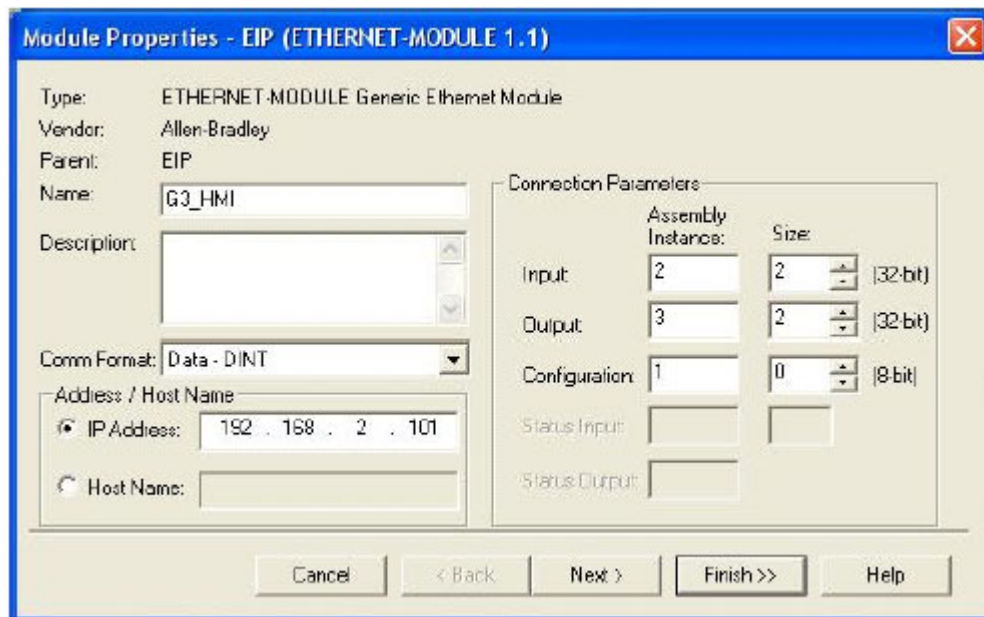

FIG. 72. Ethernet Module Properties
- d. Click OK. This will open the Module Properties window. See FIG. 72.
- e. In the Name field, enter a descriptive name to identify the module. See FIG. 72.
1. **Ethernet Settings.** Set the IP Address to 192.168.2.101. This should match the Address/Host Name entered in FIG. 72.